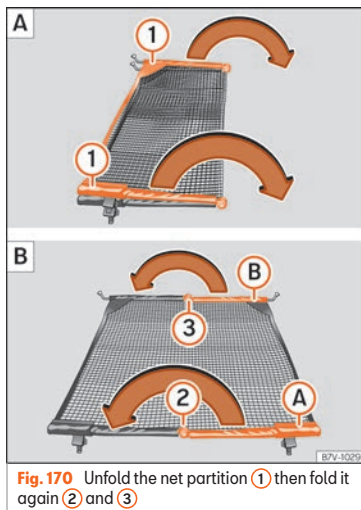

Fig. 170 Unfold the net partition (1) then fold it again (2) and (3)
Fold out the cross support rods »» Fig. 170 (1) for the net partition fully in the direction of the arrow until you hear a “click”.
- Press on the release button »» Fig. 170 ② and bend the rod (A) in the direction of the arrow with the release button pressed.
- Press on the release button »» Fig. 170 ③ and bend the rod (B) in the direction of the arrow with the release button pressed.